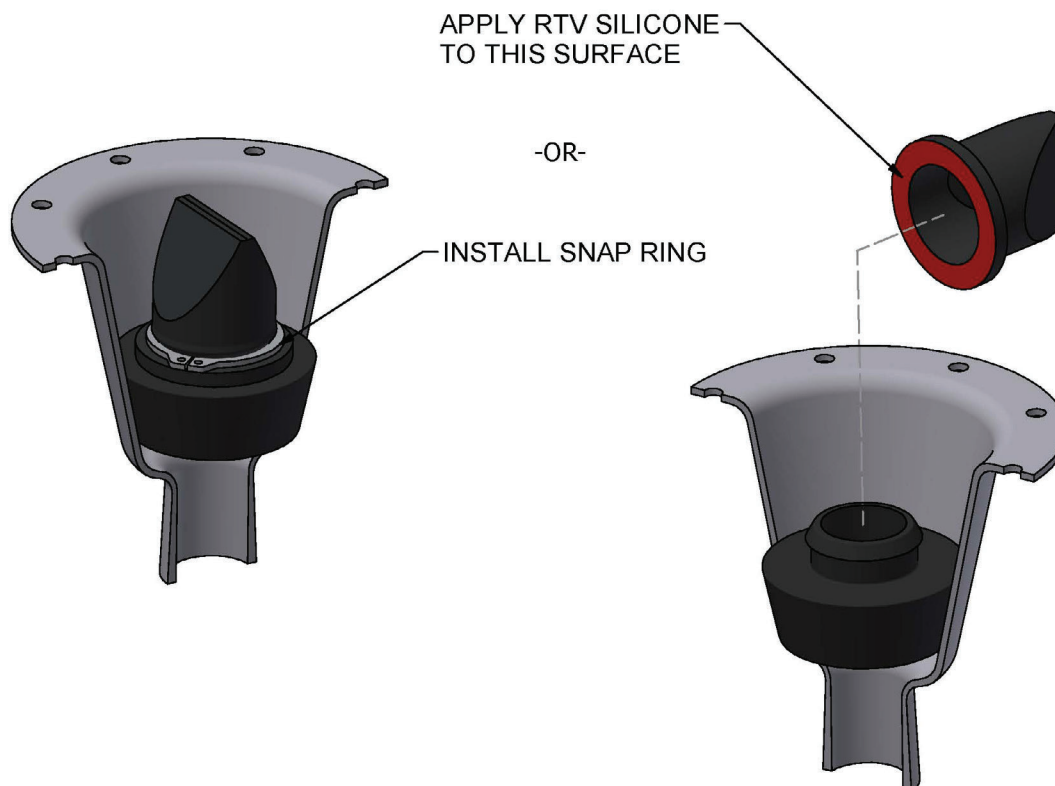

Figure 2 – Optional Retention Measures
- (OPTIONAL) Measures for retention of duckbill valve if not already in place (see Figure 2):